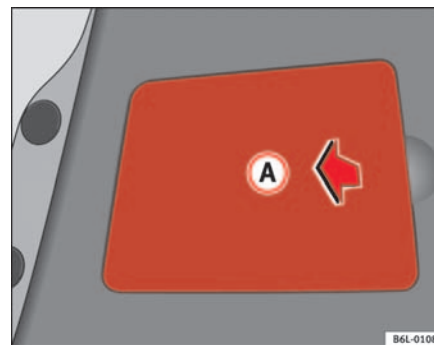

Fig. 151 Rear light on tailgate
- Remove plastic cover (A) ⇒ page 211, fig. 151, insert finger in opening and pull in the direction of the arrow.